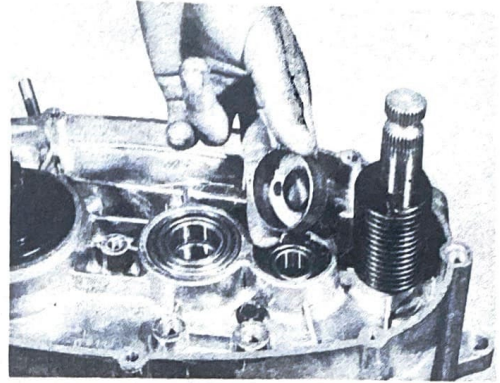

Fig. 4-16-1
- 1) Remove the kick spring cover. (Fig. 4-16-1)